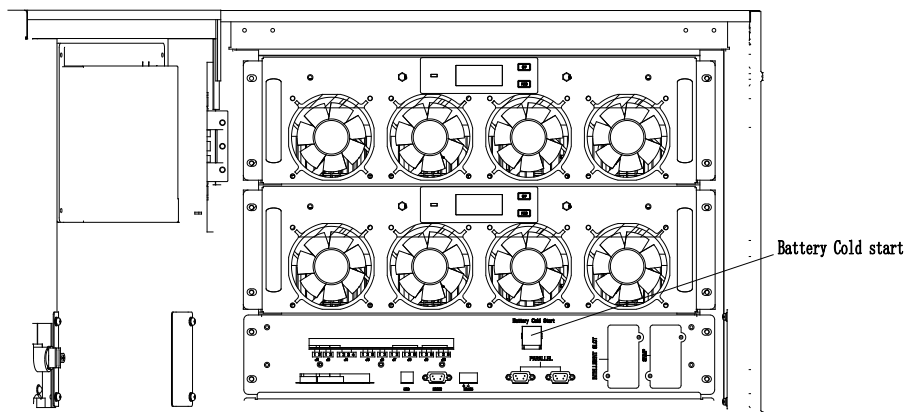

Fig.4-1 The position of the battery cold start button
2. Press the red button for the battery cold start (as shown in Fig. 4-1).The system is then powered by the battery.